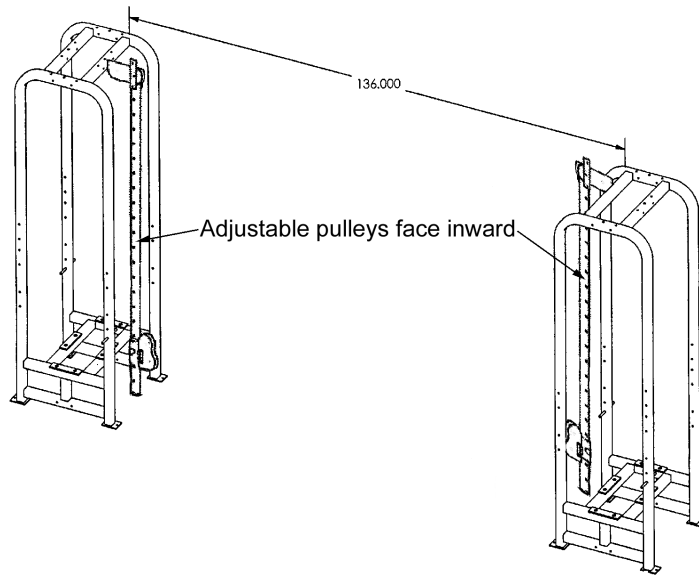

Figure 3. Set the weight stack cubes.
1. Place the two weight "cubes" in their "final resting spots." The cubes will be approximately 11'4" apart as shown in Figure 3.
The part shown in Hardware Figure 3 is the 9/16" cable jam nut that's used to secure the cables to the weight stacks.
Hardware Figure 3. Cable jam nut.